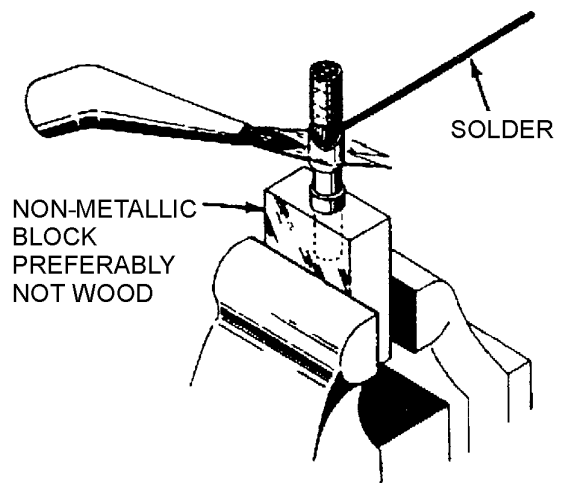

Figure 21. Torch Soldering Large Contact
2. IMPROVE TINNING AND SOLDERING OF CONTACTS IS ACHIEVED BY PROPER HEATING OF THE CONTACT. CHOOSE THE SOLDERING IRON TIP SHAPE WILL PROVIDE THE BEST HEATING OF THE CONTACT. LARGE CONTACTS CAN BE REMOVED FROM THE INSERT AND HELD IN A NONMETALLIC BLOCK TO MINIMIZE HEAT LOSS (FIGURE 21).
66. TORCH SOLDERING. A torch can be used to solder wire into a large contact which has been removed from its insert (Figure 21).